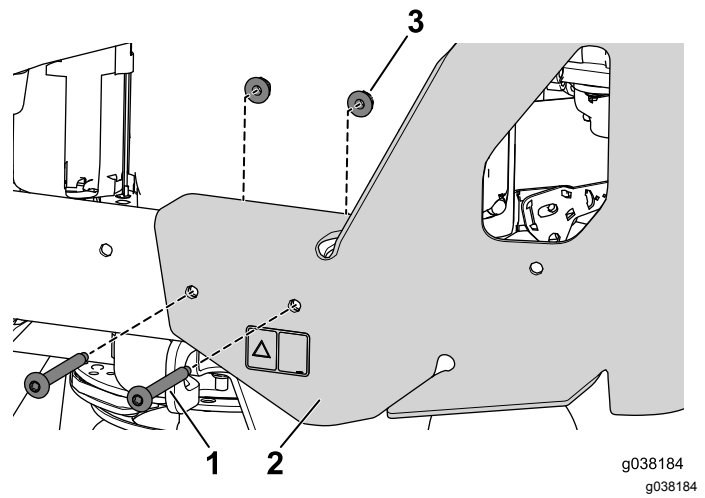

Figure 11
2. Remove the bolts and nuts that secure the left side of the rear guard to the frame (Figure 11).